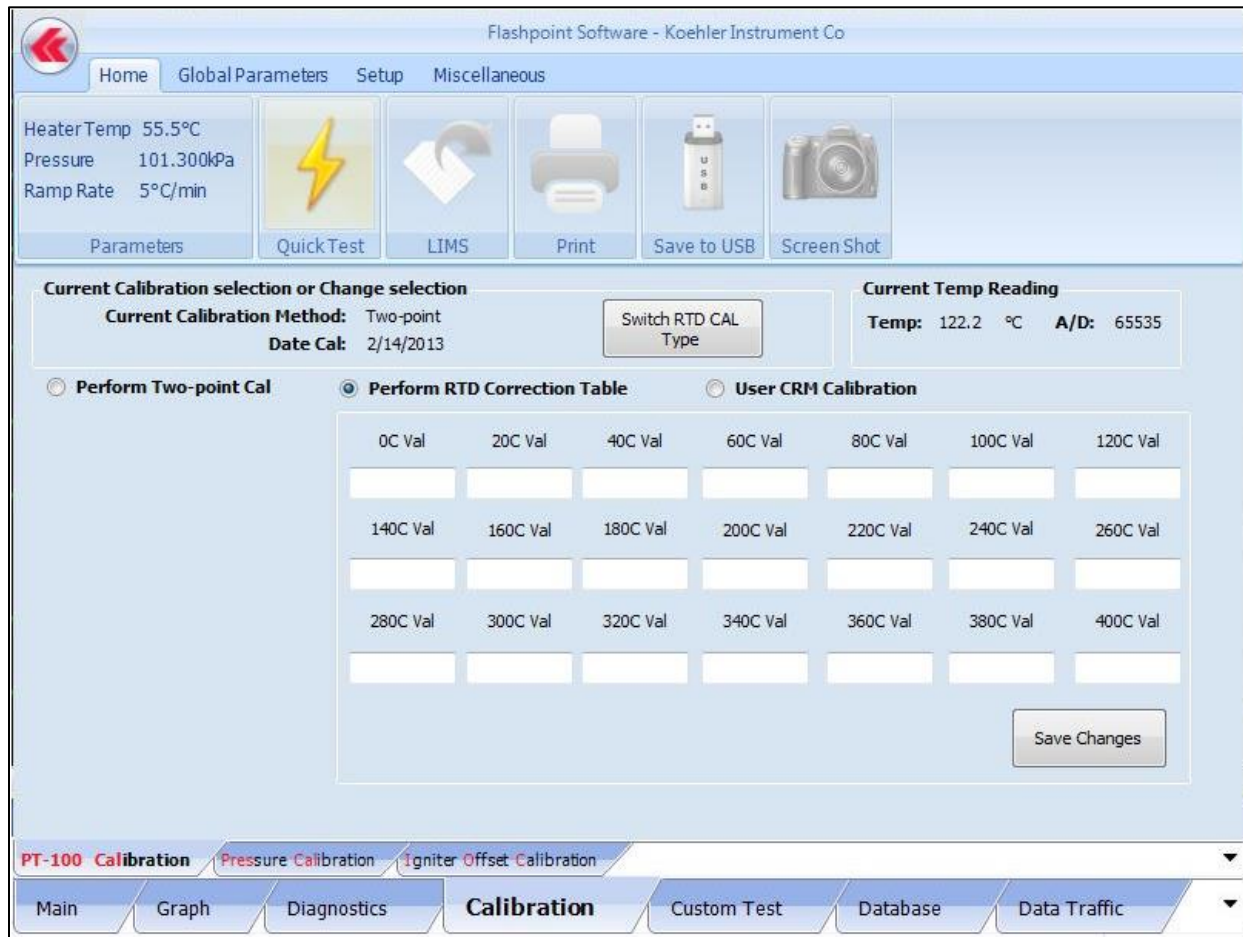

Figure 18: Calibration Screen (RTD Correction Table)
**RTD Correction Table** Calibration as shown in **Figure 18** below is performed in conjunction with external certified temperature measuring devices. This table lists 21 fields in which the user can input offset values for any of temperature values shown. This table is particularly convenient for those with Certified Digital Contact Thermometers or Certified Liquid in Glass Thermometers and are interested in offsetting the analyzer at one or more temperature values of their choice. Simply enter the offset value in the corresponding field and click **Save Changes** to implement the offset.